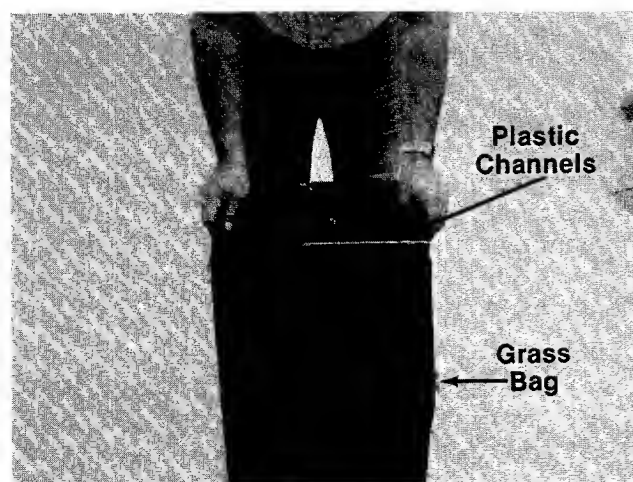

FIGURE 12.
3. Secure bag to frame by slipping plastic channels on bag over frame. See figure 12.